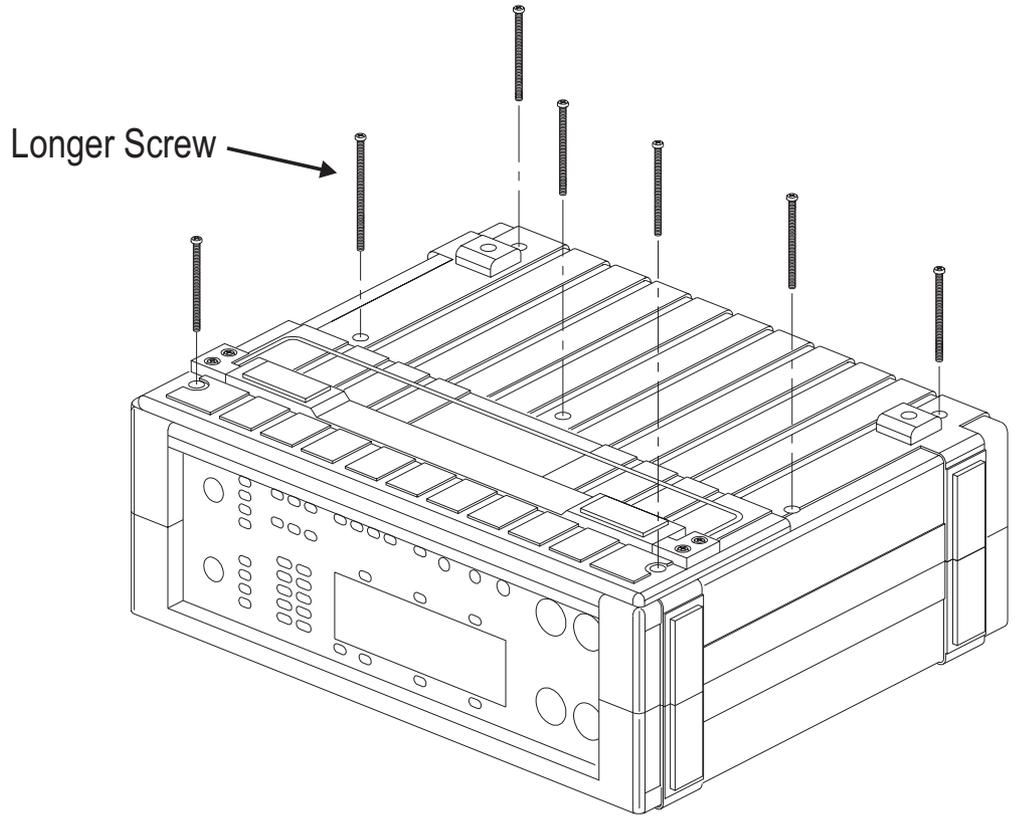

Figure 8-1 Screws Removed for Case Disassembly
2. Using a Phillips (cross-head) screwdriver, remove the seven screws recessed into deep holes in the bottom of the instrument. These screws are shown on Figure 8-1. Do not remove the screws that attach the rear feet or the four small screws holding the tilt bail assembly in place. Note that the screw nearest the handle is longer than the others; it must be replaced in its original location during reassembly.
7. Replace the handle assembly and shoulder strap anchors to their locations in the inverted case top. Reassemble the bottom half of the case, making sure that the front and rear panel edges go into their slots in the case. Slide the case down evenly and gently to its position. Reinsert and tighten the seven screws, making sure that the longer screw is in the proper location (shown on Figure 8-1).